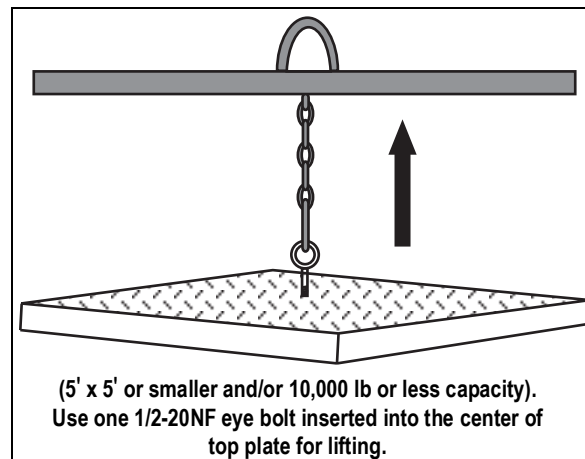

Figure 2-1. Proper Lifting Technique
1. Using proper lifting technique (Figure 2-1 on page 3), lift the scale so the feet are approximately one inch off the floor.